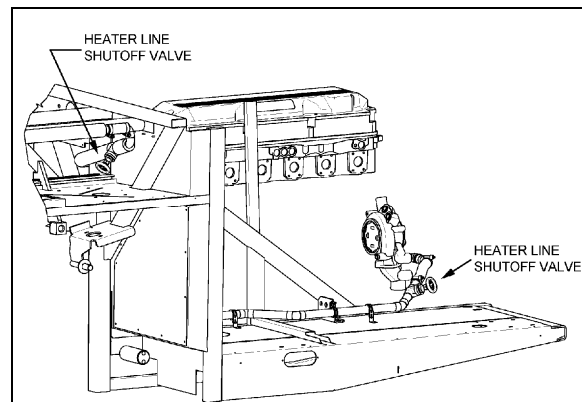

FIGURE 45: HEATER LINE SHUTOFF VALVES (CENTRAL HVAC SYSTEM)
2. Close both heater line shutoff valves (figure 45 & 46). One is located in the engine compartment under the radiator fan gearbox, while the other one is located behind the L.H. hinged rear fender near the preheater. Refer to "Preheater System" in this section to gain access to the heater line shutoff valve.